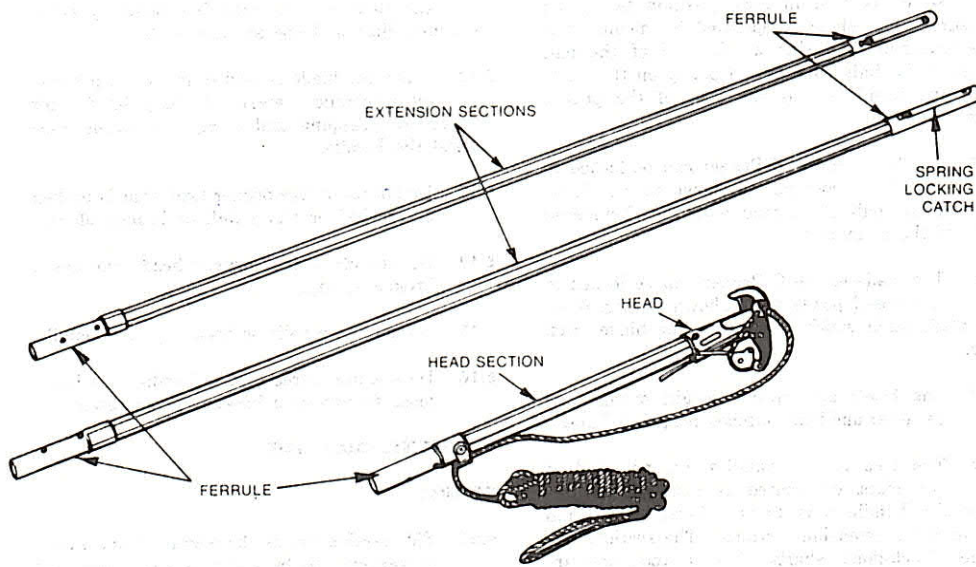

Fig. 7—B Tree Pruner With Handle Sections
8.08 The tree pruner handles are provided in two sizes, designated as small and large. Each size handle consists of a head section and one or more extension sections. The sections are made of octagonal shafts of light wood and are equipped with telescoping ferrule connectors, the female ferrule being a spring actuated locking pin. See Fig. 7 and 8. The head section usually used with tree pruners is approximately 2 feet long, although one approximately 5-3/4 feet is available. Each extension section is approximately 6 feet long. Also, a tapered section approximately 5-3/4 feet long is available which permits joining tools and small sections to large sections on a composite handle. The small handle sections are 1-1/4 inches across flats of the octagon and the large handle sections are 1-3/4 inches.